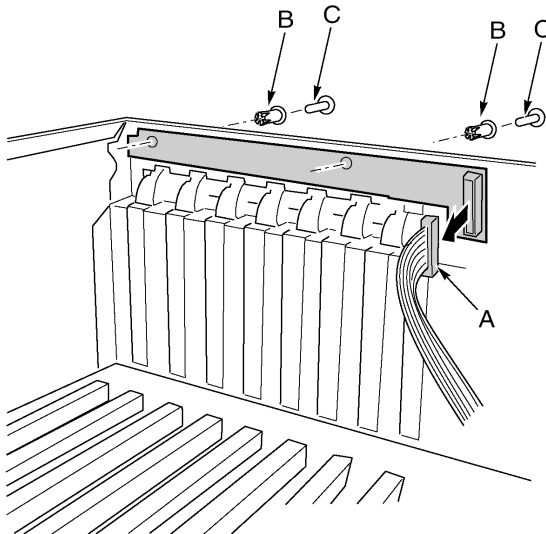

Figure 55 - Removing the hot-plug indicator board
- 3 Remove the two plastic rivets that secure the board to the electronics bay (Figure 55, C).